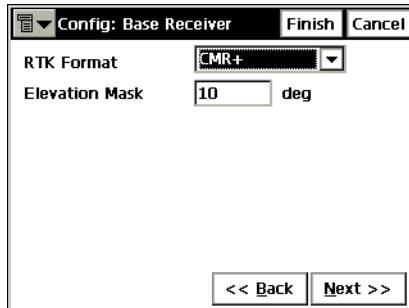

Figure 3-8. Config: Base Receiver (RTK)
1. Set the parameters for the Base Receiver: Elevation Mask and RTK Format (Figure 3-8 on page 3-7), and tap **Next**. Select the *Receiver Settings* option from the menu in the upper left corner of the **Config: Base Receiver** screen, to turn charging mode of the receiver battery off as needed.